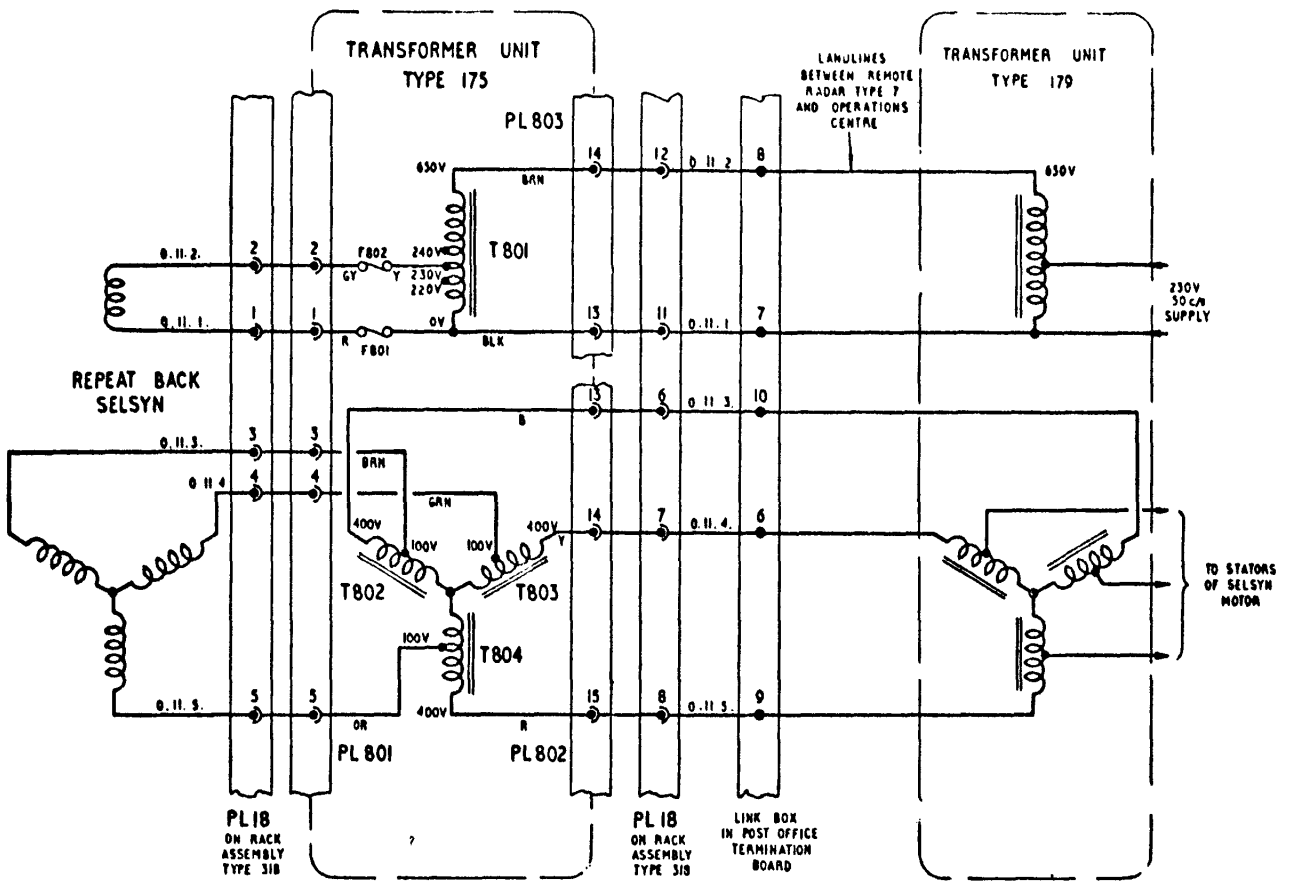
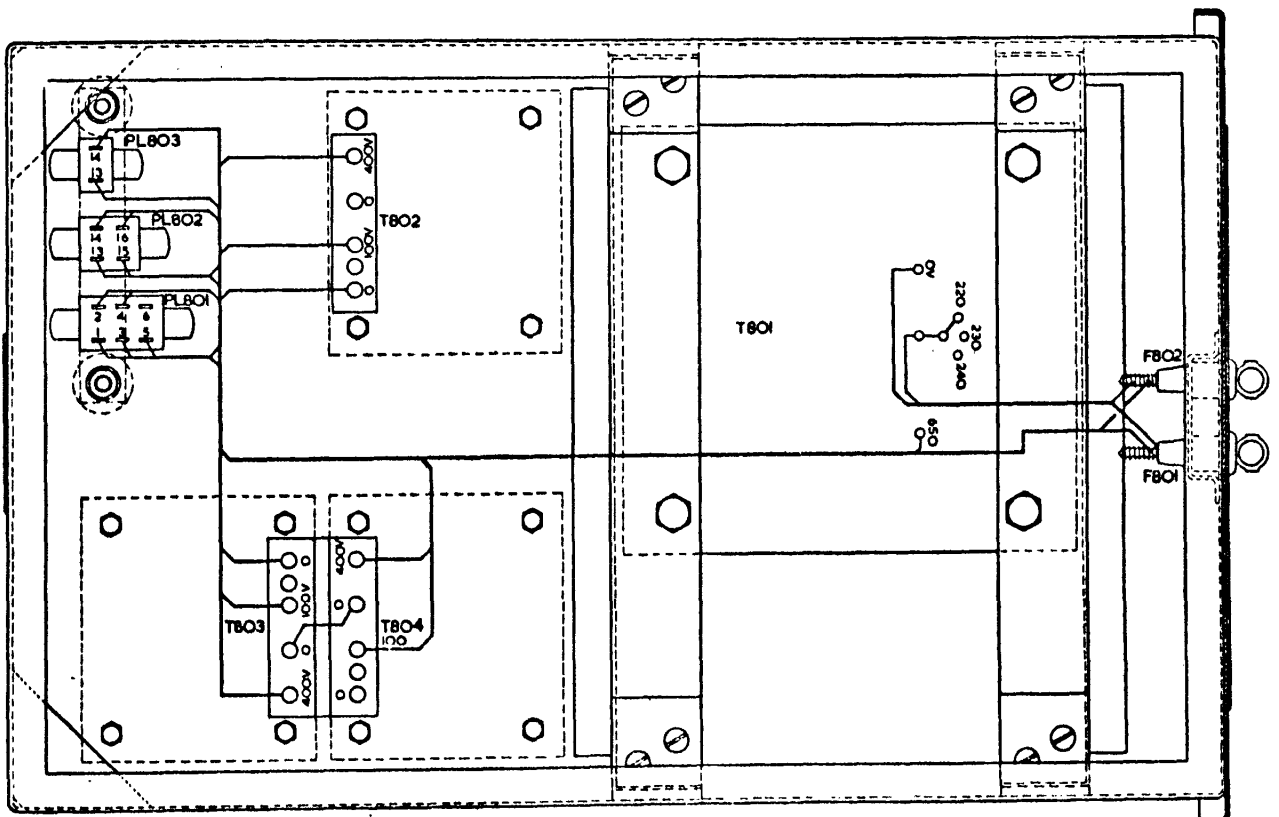

Fig. 1. Transformer unit Type 175 and associated equipment : circuit
Fig. 2. Transformer unit Type 175 : underside
3. Fig. 1 gives a circuit diagram of the transformer unit Type 175 and of parts of the associated equipment, and shows their inter-connections. Fig. 2 shows the component layout as seen from below.
6. The terminals on transformers T802, 803 and 804 which are marked 0, 100, 400 in the circuit diagram (*fig. 1*), may be marked 0, 50, 200 on the transformers themselves. Despite this, the voltages actually present will be 0, 100, 400.